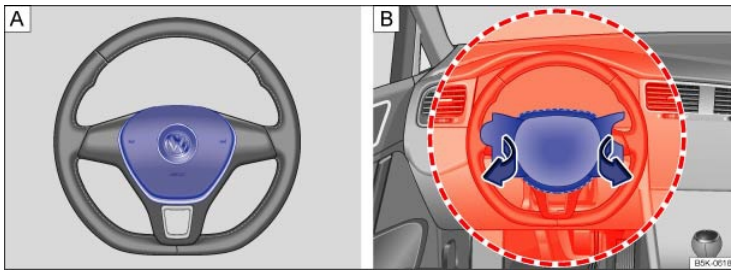
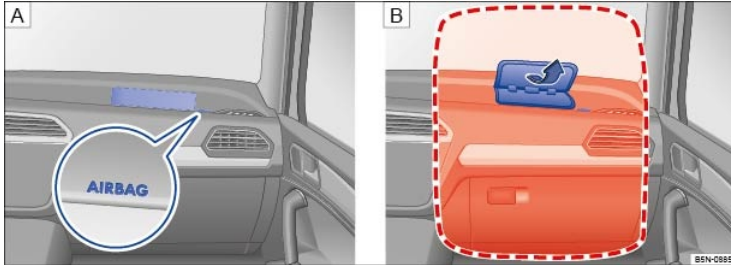

Fig. 32 Location and deployment zone of the driver front airbag.
Fig. 33 Location and deployment zone of the front passenger front airbag.
The vehicle is equipped with an Advanced Airbag System in compliance with the United States Federal Motor Vehicle Safety Standard (FMVSS) 208 or the Canadian Motor Vehicle Safety Standard (CMVSS) 208 applicable at the time your vehicle was manufactured. The airbag for the driver is in the steering wheel hub ⇒ Fig. 32 A and the airbag for the front passenger is in the instrument panel ⇒ Fig. 33 A. The general location of the airbags is marked AIRBAG.
The areas marked in red (dotted lines) ⇒ Fig. 32 B and ⇒ Fig. 33 B indicate the airbag deployment zone. Never place or attach accessories or other objects (such as cup holders, telephone brackets, note pads, navigation systems, large, heavy or bulky objects) on the doors, on the windshield, over or near the area marked in red (dotted lines).
- Never place accessories or other objects (such as cup holders, telephone brackets, notepads, navigation systems, or things that are large, heavy, or bulky) on the doors or attach them to the doors; never place them over or near the area marked AIRBAG on the steering wheel, instrument panel, or seat backrests, or between those areas and someone in the vehicle *⇒ Fig. 32* and *⇒ Fig. 33*. Such objects could cause serious injury in a collision, especially if an airbag inflates.